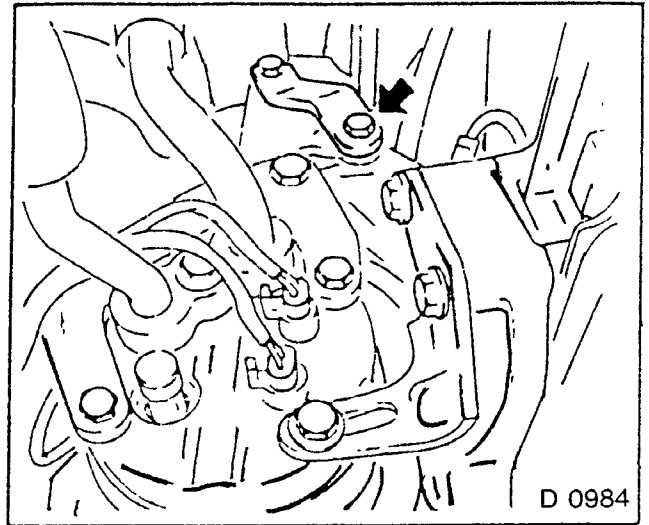

Fig. 110
4. Fastening bolts (long, Fig. 110/arrow) from bracket and compressor